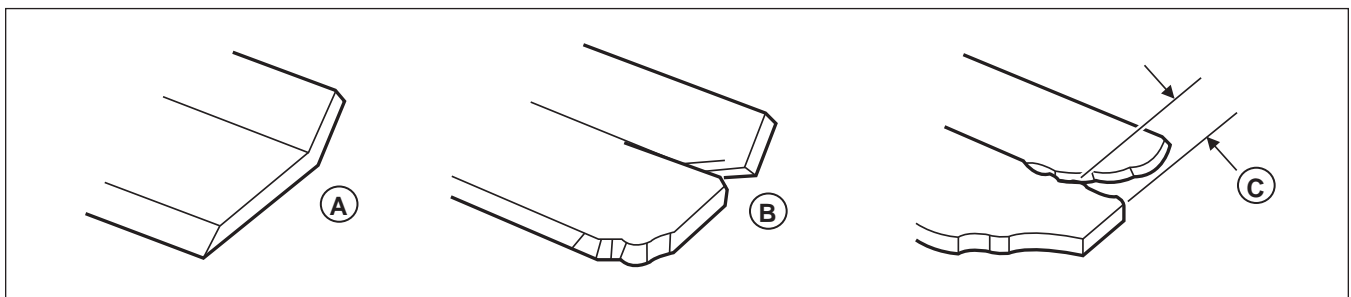

Figure 14. inspecting the Mower Blade Air Lifts
- B.) The air lifts are excessively eroded (B & C, Figure 14) and the notch (C) is .25" (6,35 mm) deep or greater.